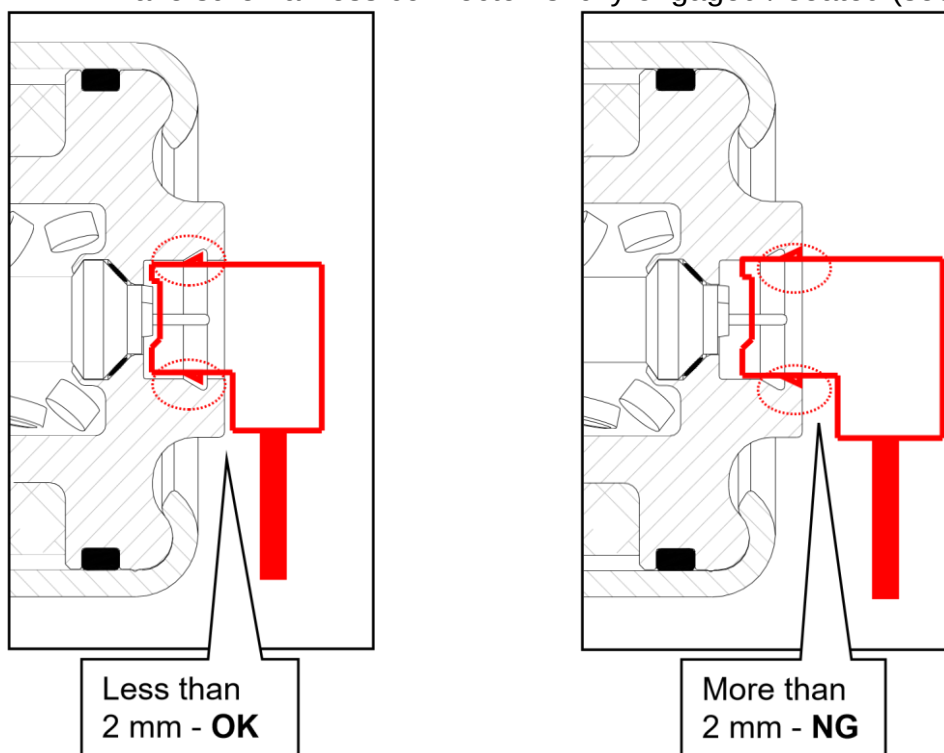

Figure 28
□ Make sure harness connector is fully engaged / seated (see Figure 28).